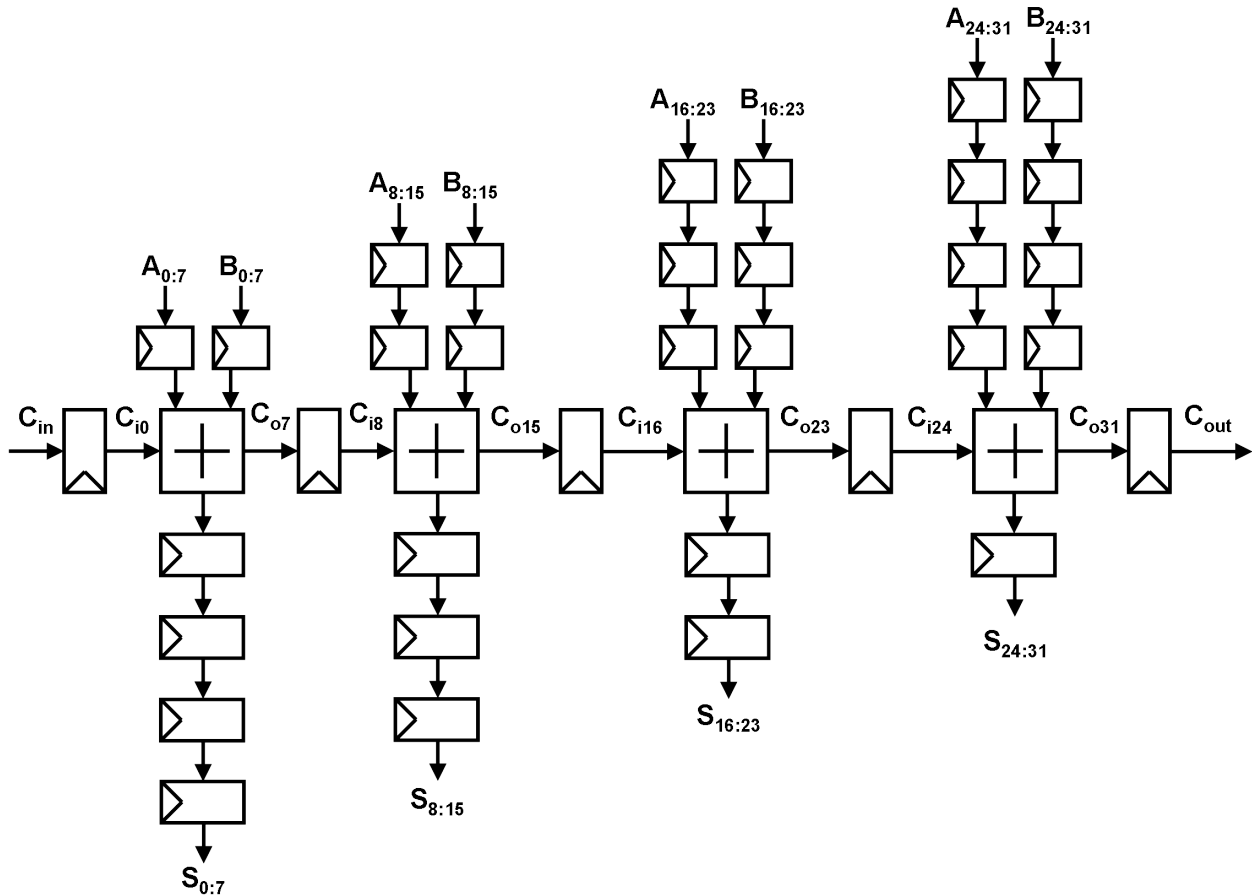
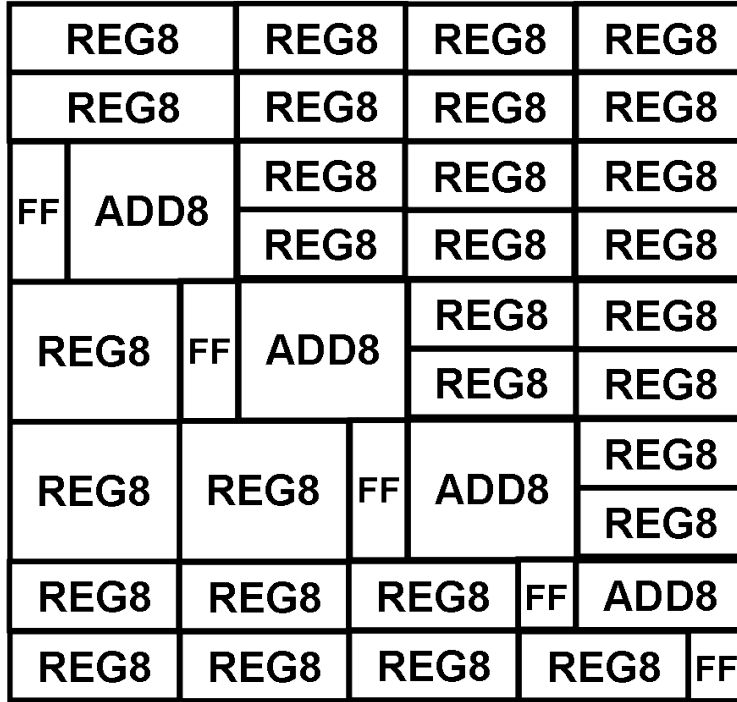

Figure 1: Pipelined 32b adder block diagram.
Figure 2: Pipelined 32b adder floorplan.
**Positive Edge-Triggered D Flip-Flop** Create a new schematic cell view using the Library Manager for new cell called **pDFF** (for positive edge-triggered D flip-flop). Draw the schematic for the flip-flop as shown in Figure 1 of Prelab 5 with the following modifications:
In this section, you will design, lay out, and simulate a pipelined 32 bit adder. The adder will be pipelined in 8b segments and follow a ripple-carry architecture, thus the maximum throughput (i.e., maximum clock frequency) will be determined the ripple-carry delay of an 8b adder stage rather than the full 32b carry chain. You would therefore expect the pipelined adder to be able to run at approximately 4 times the frequency of the adder you designed in Lab 4. Figure 1 shows a block diagram of the pipelined adder showing where the pipelining flip-flops and registers need to be inserted to guarantee that all the input and output bits arrive at the correct times to produce a valid result in the final set of registers. To build this adder requires building some subcircuits first.
**Part 3 Pipelined 32b Adder Design** Create a new schematic view for a new cell called `adder32bPipe` and implement the schematic shown in Figure 1. Label the inputs and outputs the same as used for the `adder32` cell from Lab 4. This allows you to reuse most of the testbench schematic and test vectors you created for Lab 4 with a minimal amount of extra work. Create a symbol view for the pipelined adder cell by copying the `adder32b` symbol and adding the clock input `clk`. **It is highly recommended that you finish the adder schematic by the end of the first week to allow one full week for layout and simulation. DO NOT WAIT UNTIL THE LAST MINUTE TO START!**
You are now ready to lay out the pipelined adder. The goal is to have the layout approximate a rectangular shape rather than the parallelogram implied by the block diagram of Figure 1. This can be done by routing the carry signal diagonally from the carry output of one 8b adder to the carry input of the next 8b adder. A suggested floorplan is shown in Figure 2. The suggested floorplan implies that you may need to make multiple layout views of blocks such as `pReg8`, `pDFF`, and `adder8b` in order to make all the rows of cells the same height. Do not spend a lot of time optimizing for minimum area - if you need to stretch cells and waste some area to create a rectangular/square design, do so. In this case, the ease of integrating the rectangular design with other circuits is more important than minimizing